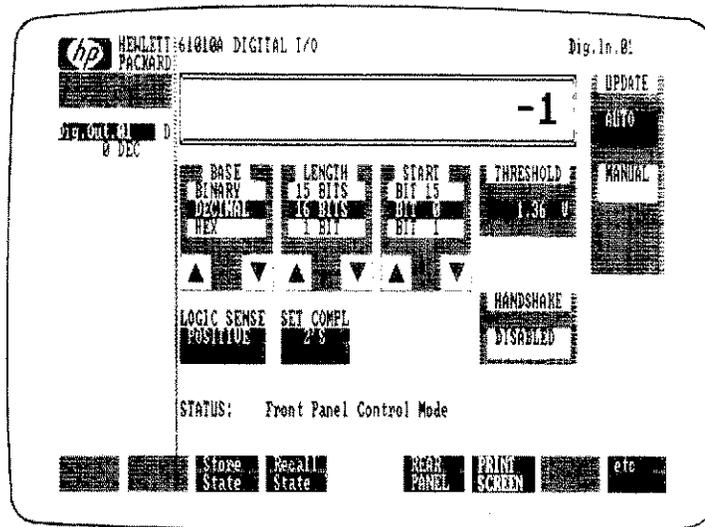

Figure 3-1. Digital Input Default Settings
Figure 3-1 shows the factory default settings that appear when the first Digital Input in your PC Instruments System is selected. These defaults are: decimal base, 2's-complement, positive logic sense, 16-bit length, 0 start bit, 1.36 V threshold, handshake disabled, and auto update. The default label (DIG.IN.01) appears in the upper right corner of the Interactive Instrument Window. The Interactive Instrument Window can display either the front panel or rear panel of the Digital Input. Use the FRONT PANEL softkey to display the front panel. This is the panel by which you operate the Digital Input. If the front panel that appears on your computer's display does not
look like Figure 3-1, it means that a previous user has changed the default settings.
The present input value is displayed in the large display area at the top of the Interactive Instrument Window (see Figure 3-1). Below this area are the interactive graphic fields. With these fields you can modify the input data for convenient interpretation when it is displayed on the top of your screen. Some of these fields are also used when operating your Digital Input synchronously as explained later in this section.
**SET COMPL** - when the decimal base is pointed to and selected, the set compl field appears on your screen as shown in Figure 3-1. When you point to and select this field, it toggles between 2's and UNSIGN. The field always indicates the complement that is currently active. Selecting this field will activate the hidden choice. When 2's-complement is active, your input data is displayed as positive and negative decimal values on the display area of the screen. The left-most bit of any specified data field automatically becomes the sign bit. Unsigned format displays your input data as positive decimal values only. If a base other than decimal is selected, the set compl field does not appear on the screen.